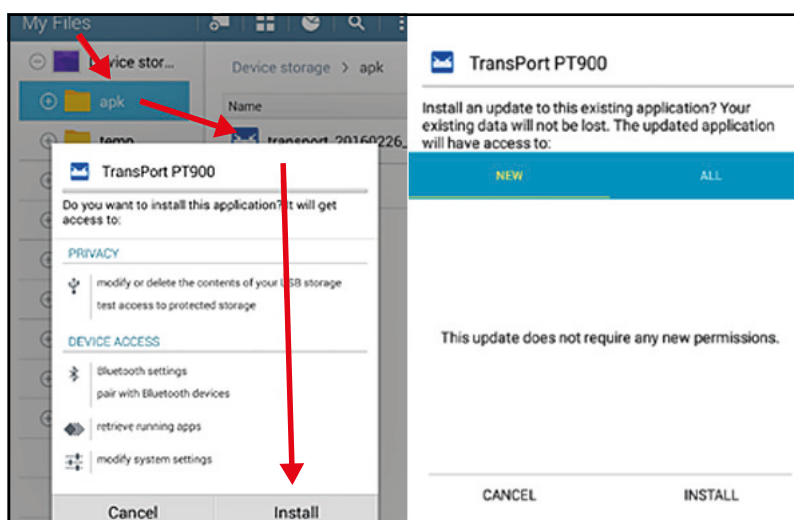

Figure 56: Initial (Left) and Update (Right) Installation Screens
3. Click on the APK file, and the Android operating system will verify the checksum and signature for the file. Depending on whether this is an initial installation or an update installation, you will see one of the screens shown in Figure 56 below. Click INSTALL to begin the installation.